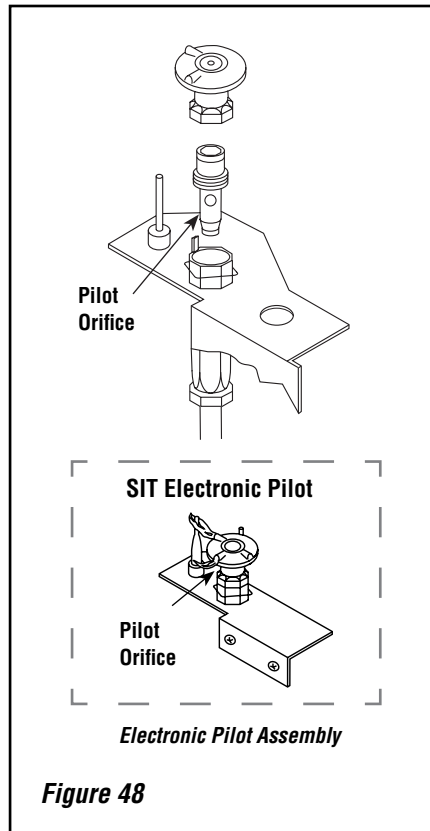

Figure 48
Step 6. Refer to **Figure 48** and remove the pilot hood assembly to access the hexed pilot orifice. Remove and replace the orifice with the one provided with the kit.